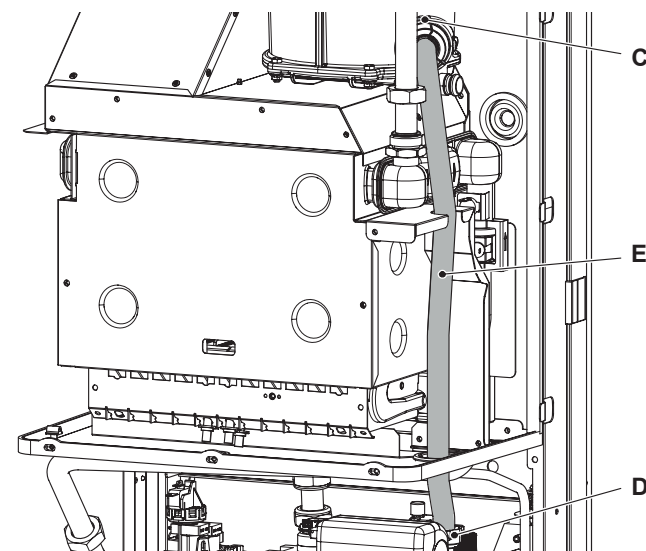

Figure 7.3
- 4 Remove the fixing spring D (Figure 7.3), and pull up and turn